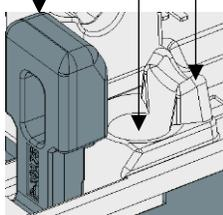

Fig. 1
- Each terminal has a plunger, a wiring chamber, and a screwdriver leverage point. See Fig. 1